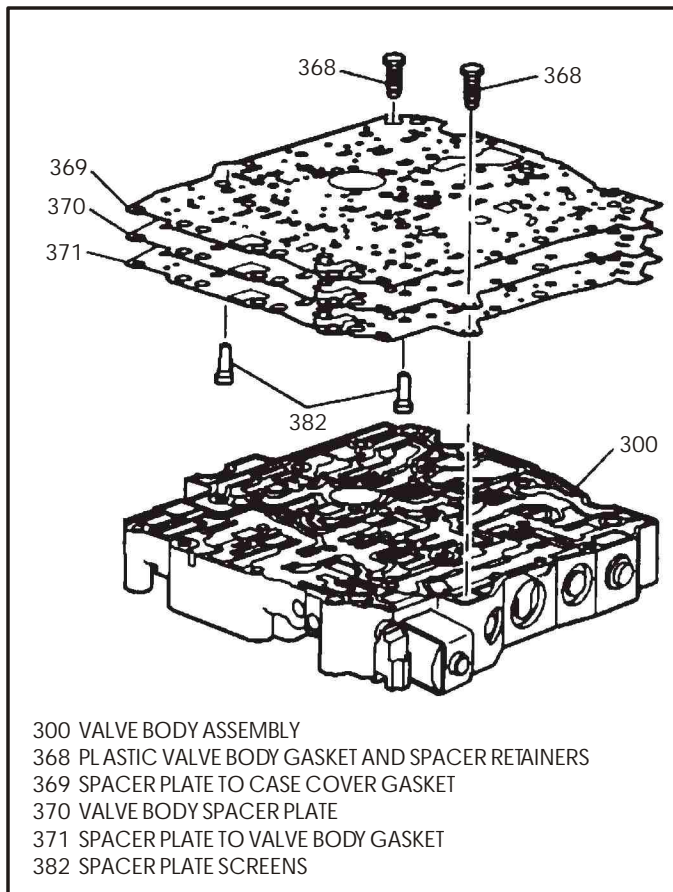

Figure 186
98. Install the spacer plate to valve body gasket identified with a "V" cut into the tab on gasket. Refer to Figure 186.
99. Install the spacer plate and screen assembly on top of valve body gasket, shown in Figure 186.
101. Install the two plastic retainers (368) through the spacer plate and gaskets, to hold them on valve body, as shown in Figure 186.